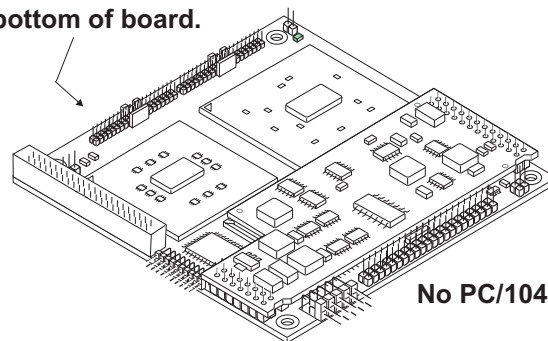

Figure 2-1. CoreModule Target System Example
• If the target system has already been setup on the workbench for installation of the MiniModule ISA board, skip this section and go to step 10. • See Figures 2-1 and 2-2 for examples of CoreModule and ReadyBoard Target Systems.